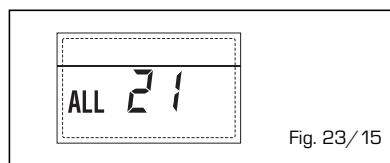

Fig. 23/15
**- INTERVENTO TERMOSTATO SICUREZZA SECONDA ZONA MISCELATA "ALL 22" (fig. 23/16)**